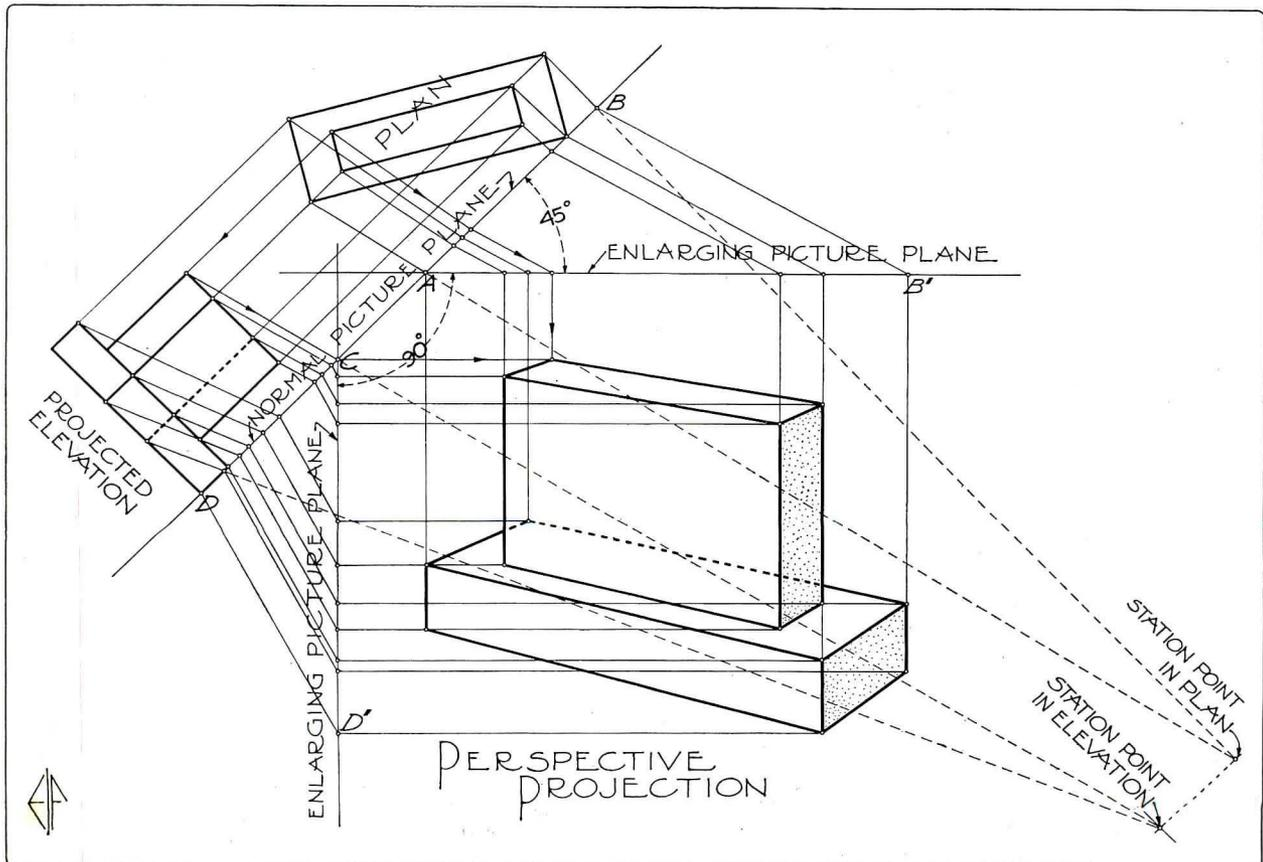

FIGURE 5
**B**. C. H., down in Alabama, wants to know some "trick" of geometry whereby a correct perspective can be laid out at  $1\frac{1}{2}$ " scale, the station point and both vanishing-points being "over in the next county." He submits a problem which, if worked out in the ordinary way, would require a board-space measuring 7'-0" by 3'-10". At Figure 5, herewith, I submit a solution of the same problem worked out on a board but 24" by 16" in size.